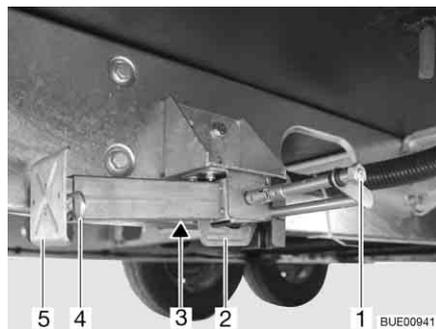

Fig. 50 Steady leg
- Place the socket spanner on the hexagonal nut (Fig. 50,1) and rotate until the steady leg is in a perpendicular downward position.
- If the length of the steady leg can be adjusted, remove the splint (Fig. 50,4) out of the support foot extension (Fig. 50,5).
- Place the socket spanner on the hexagon nut (Fig. 50,1) and rotate until the steady leg is clear of the ground.
- Push in the support foot extension (Fig. 50,5) and insert the splint (Fig. 50,4) in the drilled hole in the support foot extension.
- Rotate the hexagonal nut (Fig. 50,1) until the steady leg has swung upwards and the guide (Fig. 50,2) has reached the very end of the slot (Fig. 50,3).